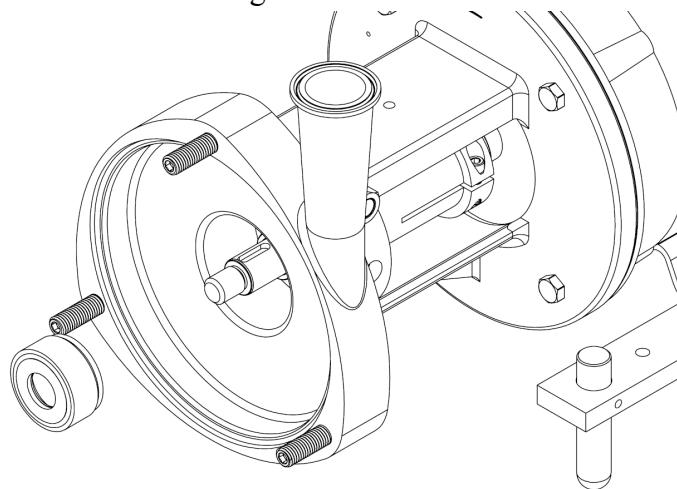

Figure 5
7. The rotating seal, o-ring and spring will come out at as a single component, figure 5.